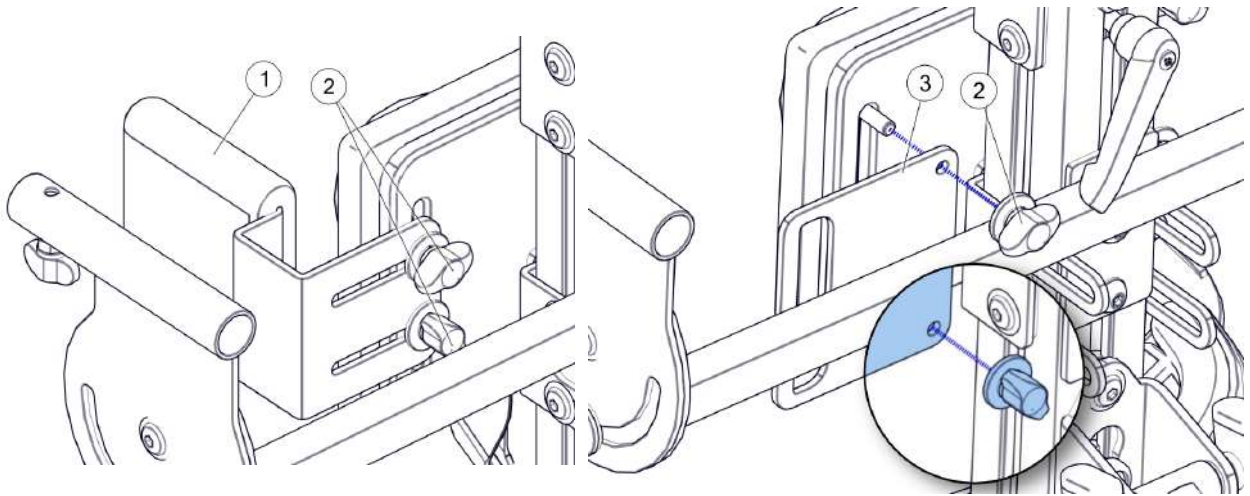
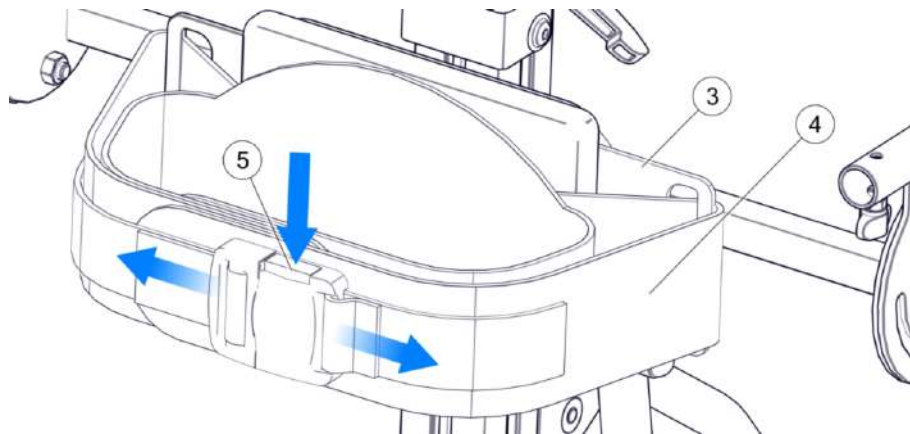
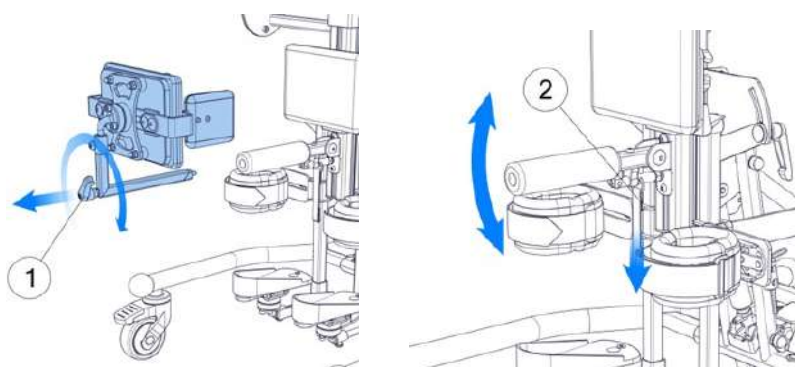
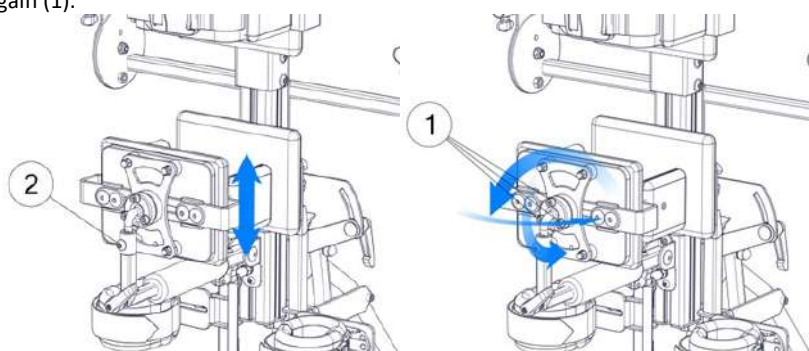

Fig. 28
Fig. 29
Fig. 35
Fig. 36
Fig. 28 and Fig. 29 The pelvic positioning strap is an additional option allowing to stabilize the patient at pelvic height. To install the strap, remove the pelvic supports (1) by loosening the knobs (2). Then use the knobs (2) to screw in the pelvic strap support (3).
Fig. 35 Before placing the patient in the stander, it is important to remove the back support. To do so, please unscrew the knob (1) and pull out the back support. Then, we fold the blocking element of the back support bracket, unhooking it from the handle by pulling it away with the strip (2).
After placing the patient in the device, fix the back support bracket and block it. The back support bracket enables precise adjustment within all planes. After setting the depth of the back support, tighten the knob (1) (Fig. 35) and hence block the possibility to pull out the back support. The maximum distance of the depth of the back support is indicated with the “MAX” mark. The height of the back support may be adjusted by loosening the screw (2) (Fig. 36). After adjusting the height of the back support, block the back support by tightening the screw (2) to the limit. Precise adjustment of the plane of the cushion supporting the back can be obtained through loosening the screws (1) (Fig. 28), and then it is crucial to adjust the location of the back support and tighten the screws once again (1).